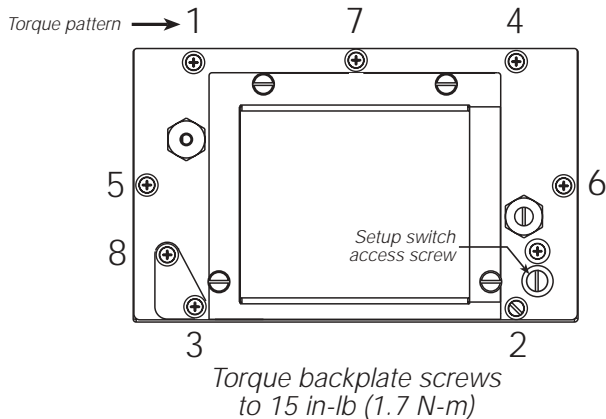

Figure 2-4. IQ plus 390-DC Enclosure Backplate
- One 8-32NC x 7/16 fillister head screw (PN 30623). This screw occupies the hole below the setup switch access screw on the indicator backplate (see Figure 2-4 on page 6).
Once cabling is complete, position the backplate over the enclosure, reconnect battery cable, and reinstall the backplate screws. Use the torque pattern shown in Figure 2-4 to prevent distorting the backplate gasket. Torque screws to 15 in-lb (1.7 N-m).
To replace the CPU board, reverse the above procedure. Be sure to reinstall cable ties to secure all cables inside the indicator enclosure. Replace backplate and torque screws as shown in Figure 2-4.